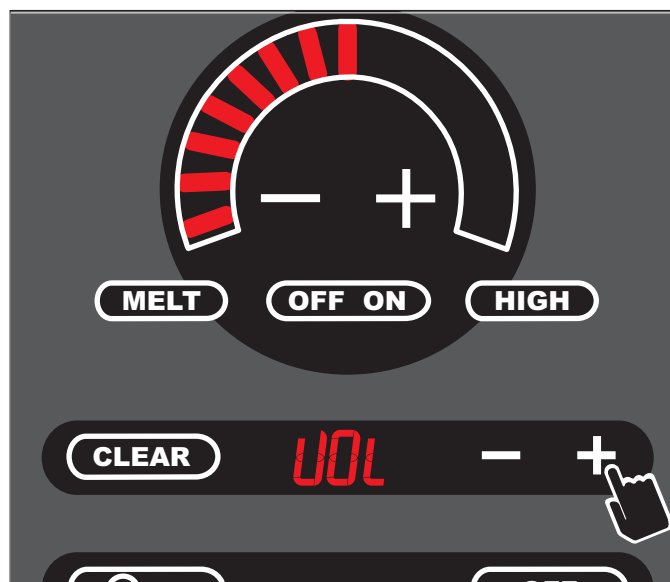

Figure 3-12. Annunciator Volume.
3. Both the Volume and the Frequency are adjustable using the timer "-" and "+" keys. One touch equals 1 step up/down in volume or frequency. Power Level Indicator - LEDs will show the current status of the volume/frequency and change with the user's input. (1 LED = Low, 8 LEDs = Med. and 16 LEDs = High) (See Figure 3-12). As the volume/frequency is adjusted, the annunciator will beep with each change. The beep will represent the volume/frequency level that is currently displayed by the Power Level Indicator - LEDs.